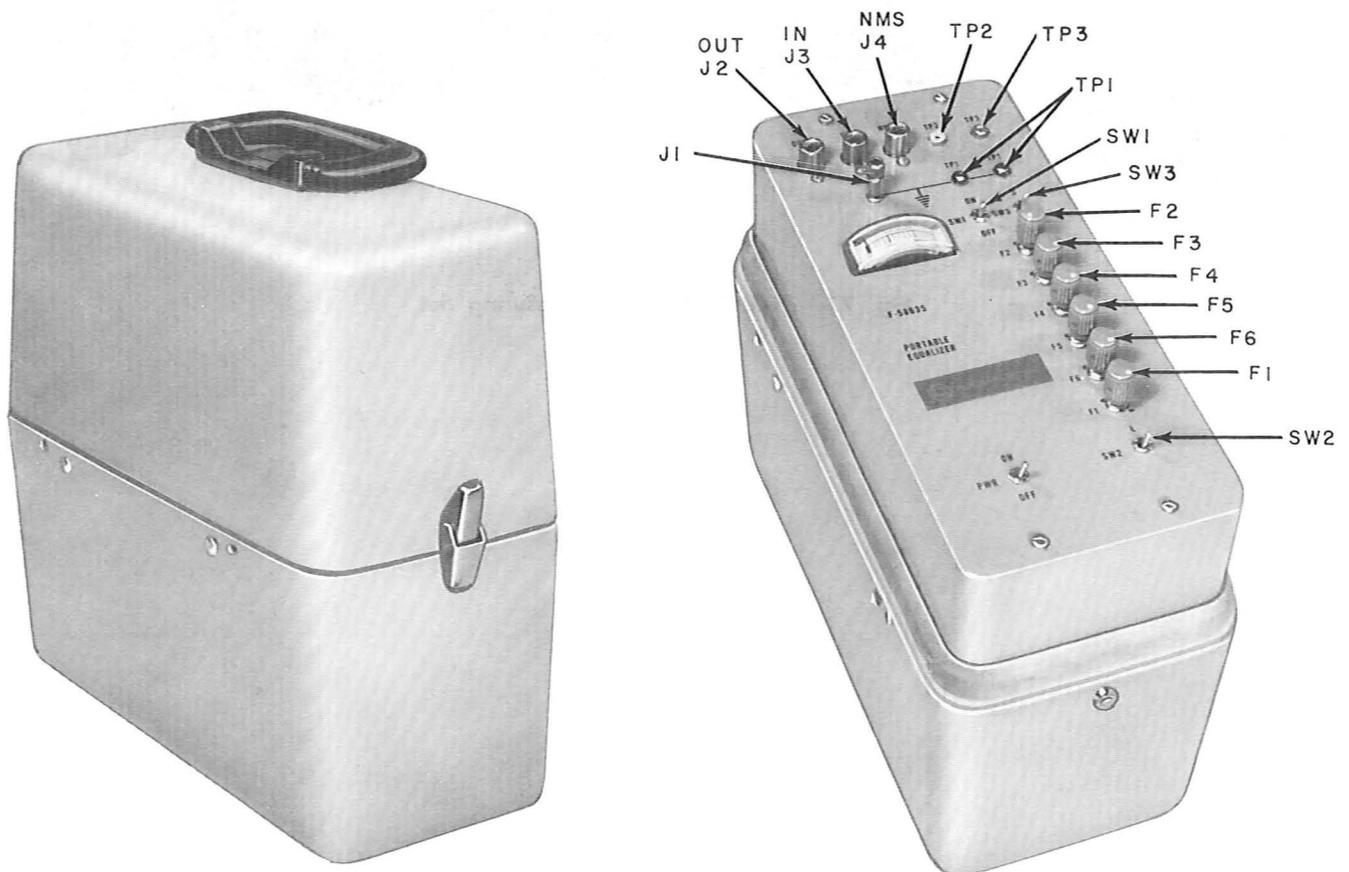

Fig. 76—F-58635 Portable Cable Equalizer Test Set (CETS)
3.73 See Fig. 76, 77, 78, and 79.